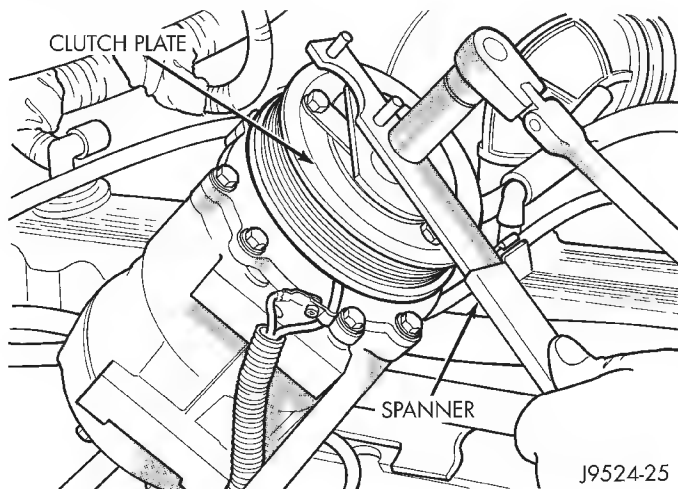

Fig. 4 Hex Nut Removal
- (1) Remove the serpentine drive belt (refer to Group 7, Cooling System for the proper procedure).
- (2) Remove compressor mounting bolts and lift the compressor from the mounting bracket. Support the compressor to work on clutch.
- (3) Insert the 2 pins of spanner C-4489 into holes of the clutch plate. Hold clutch plate stationary and remove hex nut (Fig. 4).